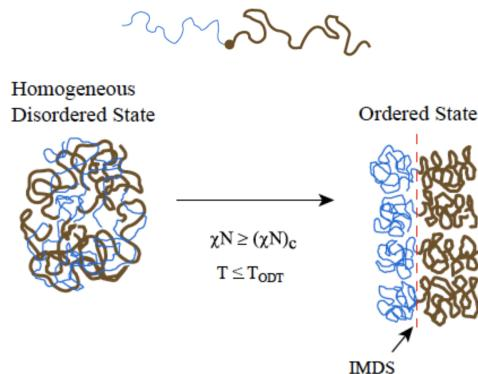

Figure 2.18: Ordering of a diblock copolymer.
- The subscript  $c$  in Figure 2.18 means “critical.”